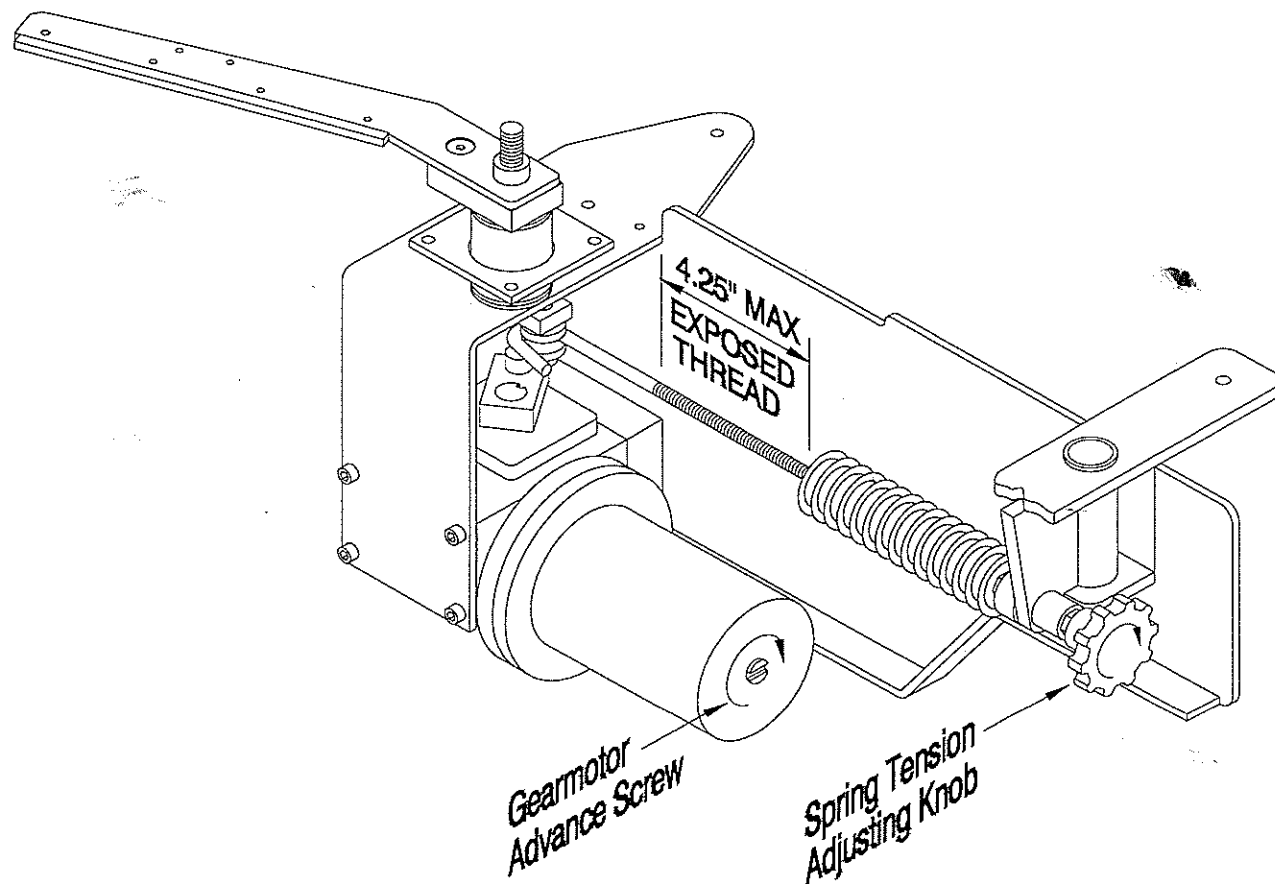

FIGURE 5 - MAINSPRING SETUP
3. The throwing arm is in the cocked position as shipped from the factory and is now under minimum spring tension. Carefully turn the gearmotor advance screw clockwise with a screwdriver in the slot at the rear of the motor until the throwing arm is in the 12 o'clock position as shown in figure 5.